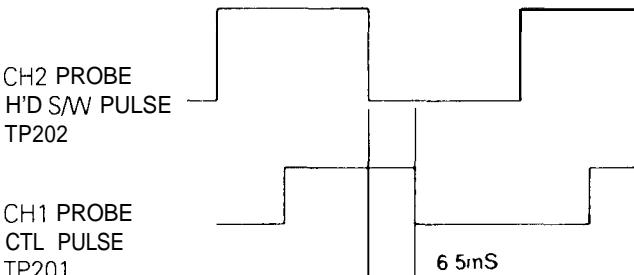

Fig. 7 Tracking Preset Adjustment
4. Set the tracking preset to "6.5 ms" using the tracking button Δ/∇ of remote control. (Refer to Fig. 7 and 8)